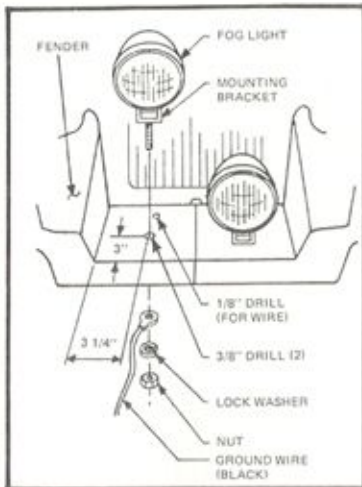

Figure 67
- Locate each fog light approximately as shown. (Figure 67) Drill a $3/8$ " hole at the marked location. Position fog lights in the holes. Drill a $1/8$ " hole directly behind the mounting bracket and push the attached wire through. Where the mounting bolt projects through the fiberglass, attach a 2 foot piece of black wire and secure the foglight in position using the hardware supplied. Run the black ground wire under the radiator shell and secure to the frame.